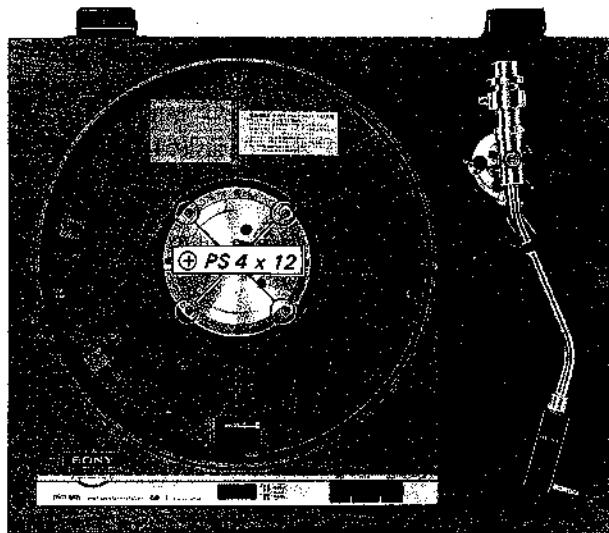

Fig. 2-7. Motor removal
3. Unsolder the motor lead wires at the terminal strip, and then remove the four screws (\oplus PS 4 x 12) securing the motor to the turntable base from the top as shown in Fig. 2-7.